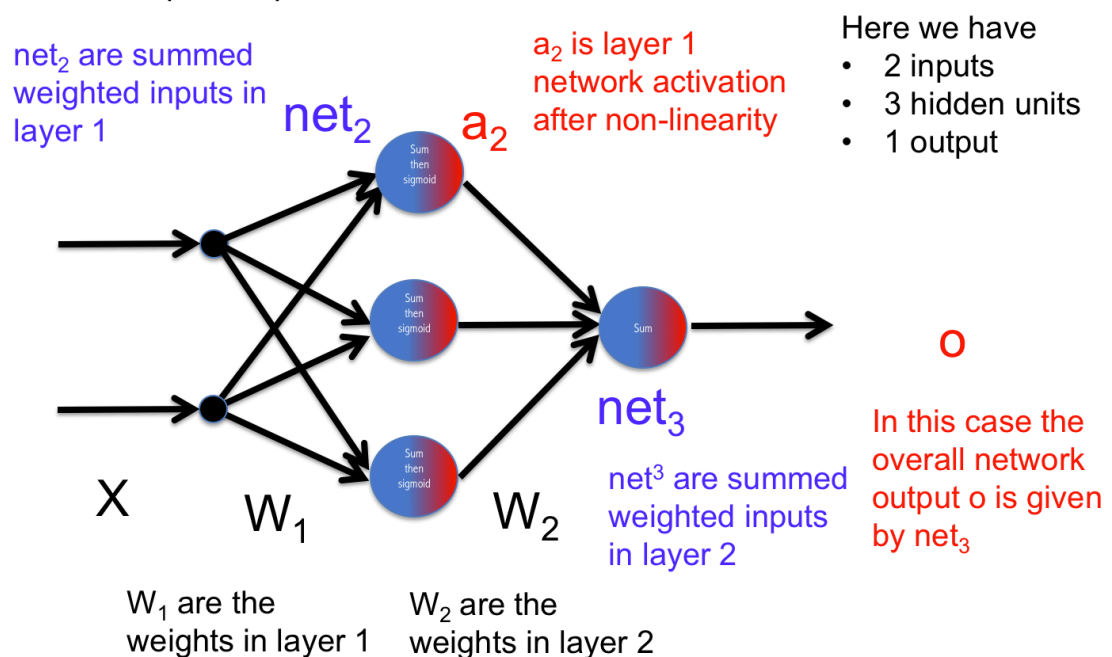

Figure 4. Two-layer network
- Consider a 2- layer network with n_h nodes in its hidden layer with a sigmoidal non-linearity at their outputs, and a **single linear output**. The network schematic is depicted in Fig.4 below.